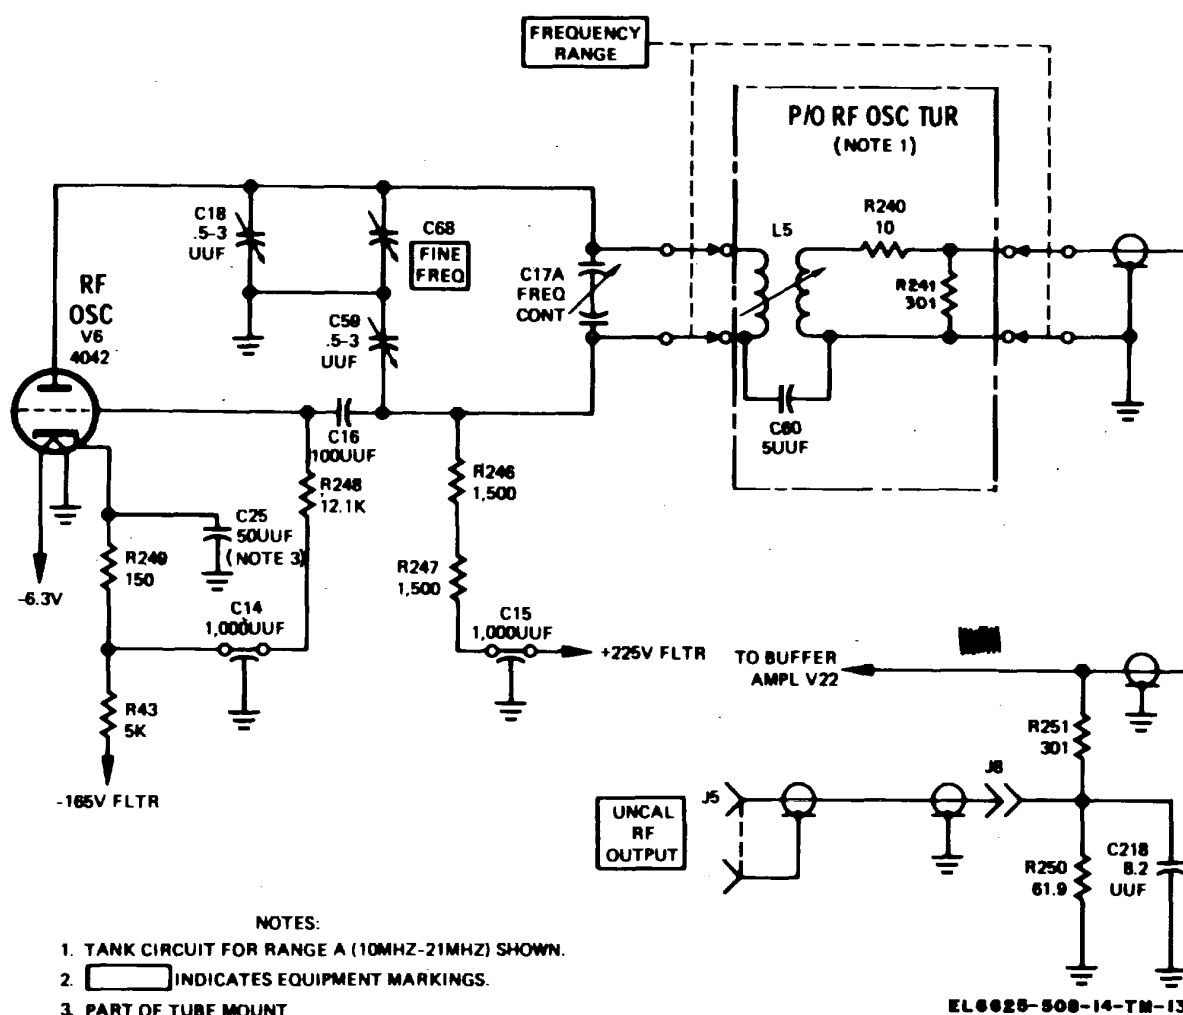

Figure 5-4. Rf oscillator circuit, schematic diagram.
a. The rf oscillator (fig. 5-4) is a Colpitts circuit composed of vacuum tube V6 and associated resistors
c. The plate circuit of V6 (fig. 5-4) is series fed through inductor L5, resistors R246 and R247; these, along with cathode resistor R43 and R249, provide plate current limiting. Capacitor C25 provides cathode bypass. Cathode bias is developed by R248 and R249.
available. When the MODULATION switch is set to INT400, the 400 cycle output of the modulation oscillator, shown in figure 5-4, is applied to the differential amplifier through the following components: